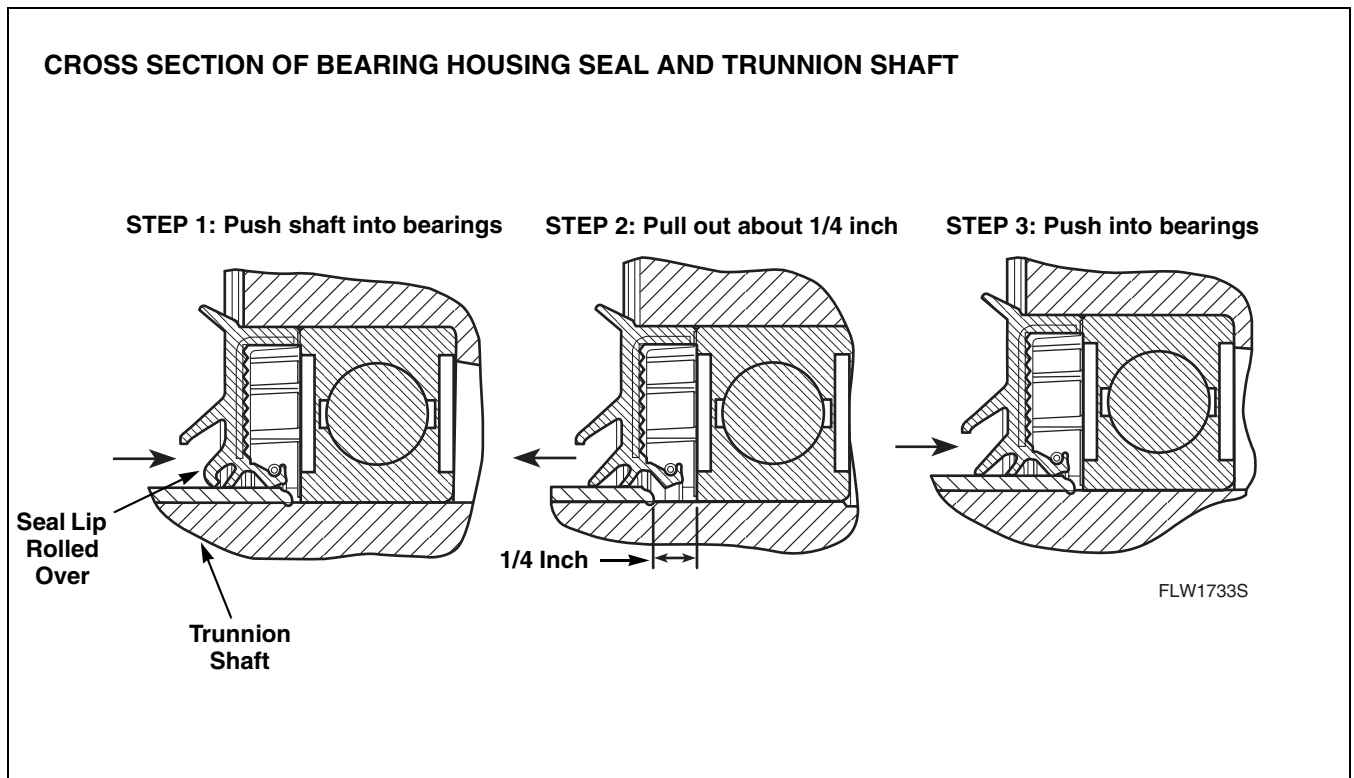

Figure 26
- c. Install inner basket assembly by pushing all the way into outer tub. Refer to *Figure 26, Step 1*.
- d. Slightly pull out inner basket about 1/4 inch to ensure that the bearing housing seal lips are not rolled over. Refer to *Figure 26, Step 2*.
- e. Fully reseat inner basket. Refer to *Figure 26, Step 3*.